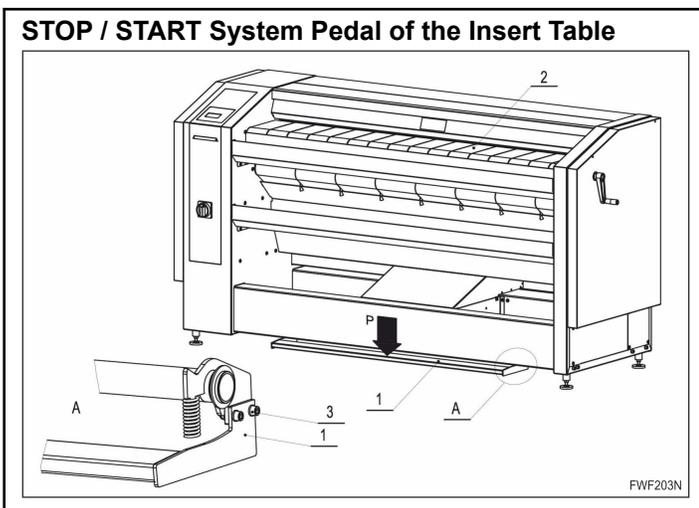

Figure 22
- Stop / start system pedal of insert table, *Figure 22* is a mechanism designed for interrupting or re-activating the operation of the feeding belts of the insert table. The pedal is situated down, in front of the machine, underneath the front support.